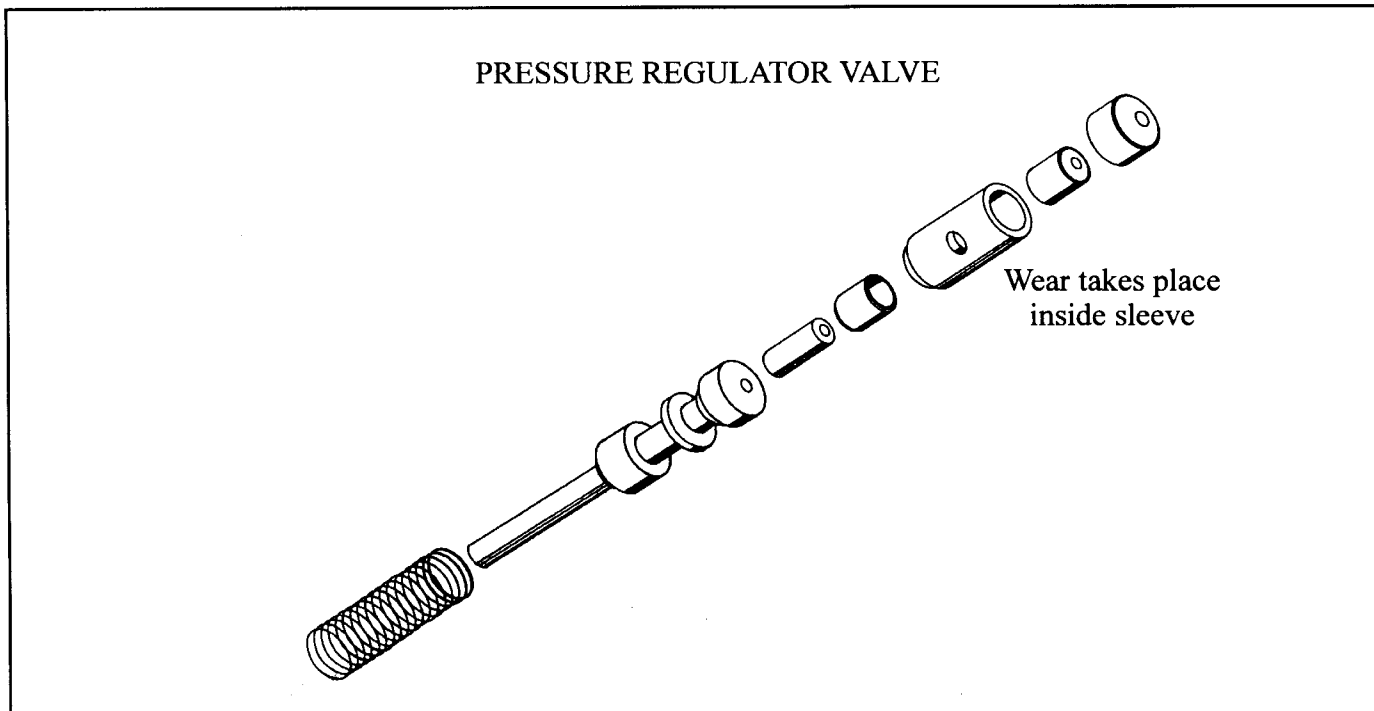

Figure 65
• Another cause of low CVI that is often overlooked is high line pressure. There are three predetermined line pressure settings in an A604 transaxle. First and second gears have 120 to 145 psi. Third and fourth have 75 to 95 psi, while reverse is calibrated to have 175 to 235 psi. The controller for the transaxle has no way of knowing or checking what the actual line pressure is in the transaxle. Therefore, the controller controls the solenoid pulse rate based on these predetermined line pressure settings. If a mechanical problem occurs in the valve body causing high line pressure, the controller will be pulsing a clutch on through a solenoid based on a lower value pressure. With line pressure being much higher than what the controller thinks it is, a higher volume of oil is allowed to pass through the solenoid which results in a below minimum CVI reading. One common cause for this is either a worn sleeve in the pressure regulator valve system or a stuck pressure regulator valve (See Figure 65). Both cross leaks and high line pressure problems causing the below minimum CVI values can be easily checked with a pressure gauge. For example, if you have a below minimum CVI value in the OD clutch circuit, attach a pressure gauge on the OD clutch tap. There should NOT be any pressure in that port in first and second gear. If there is, you have a cross leak. At the same time, when you shift into third and fourth, your OD clutch pressure should be 75 to 95 psi. If you have 110 psi or higher, you have a high line pressure problem most likely caused by a worn sleeve in the pressure regulator valve.